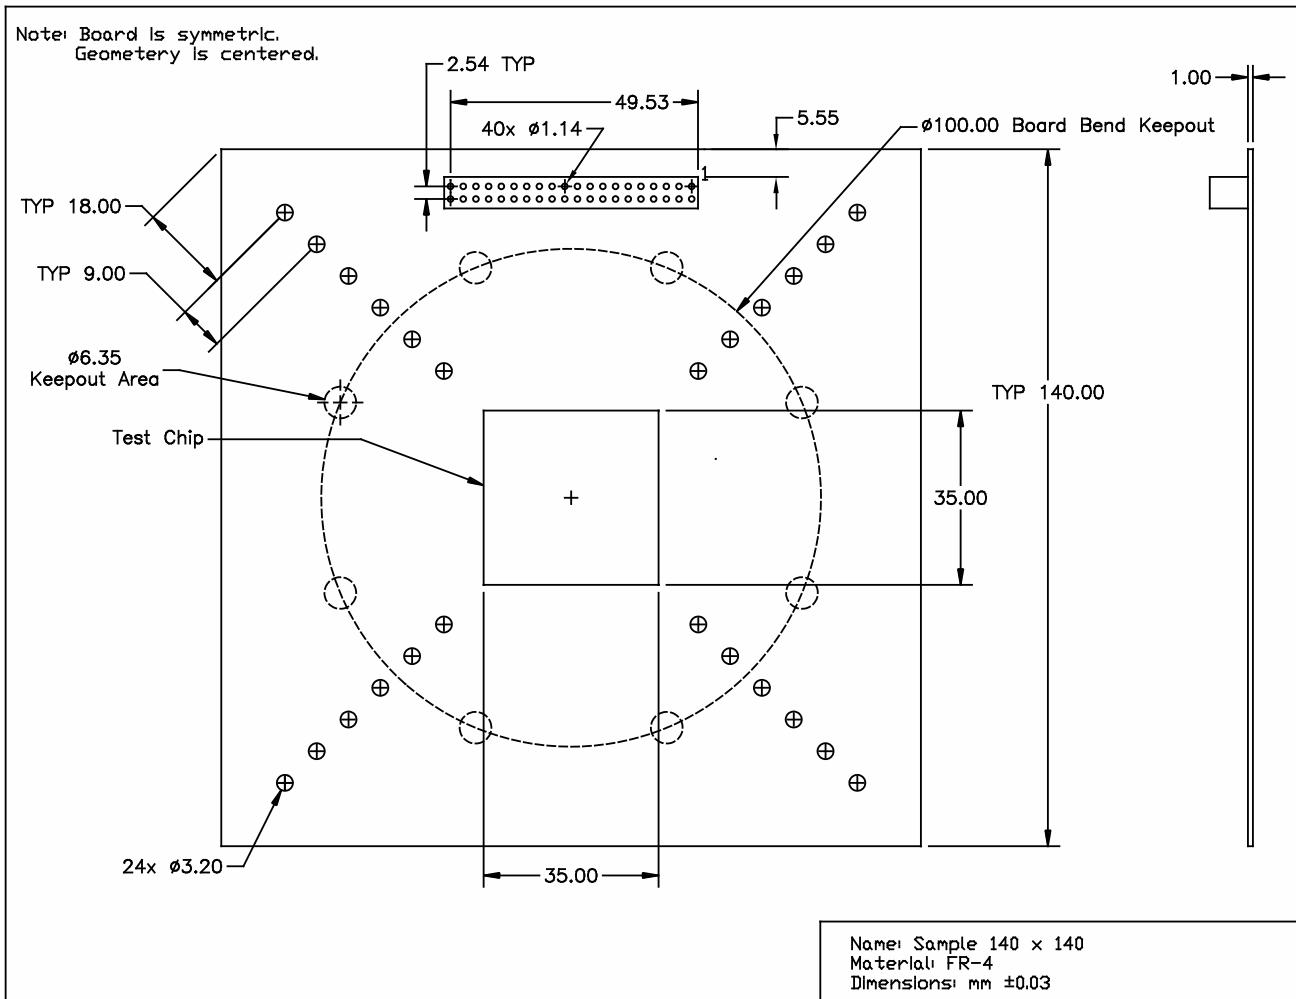

Figure 6.2 CAD Drawing for Test Board Design for BLRT (for Large IC Packages)
- For larger IC packages refer to Figure 6.2.